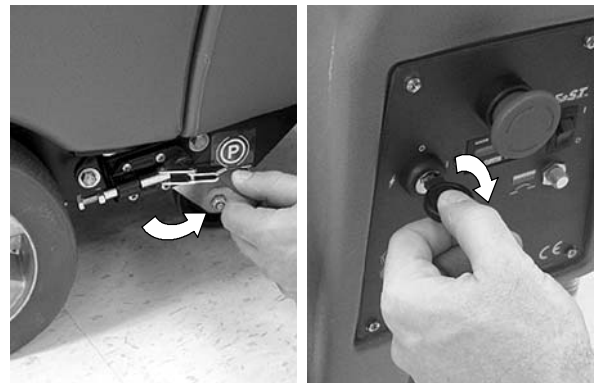

FIG. 14
1. Release the parking brake (Figure 14).
2. Turn the main power key switch to the on ( I ) position (Figure 14).